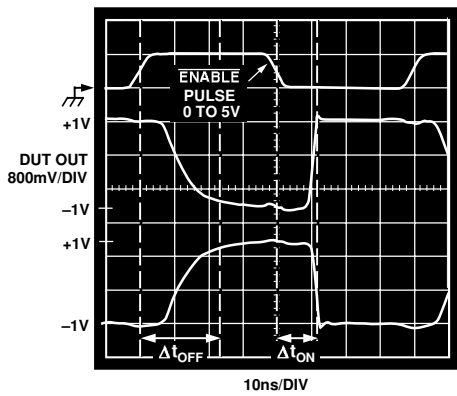

Figure 4. Enable and Disable Switching Characteristics
- 2ENABLE pin is driven with 0 V to +5 V pulse (with 3 ns edges). The state of the A0 and A1 pins determines which input is activated (refer to Table I). Set IN0 and IN2 = +1 V dc, IN1 and IN3 = -1 V dc, and measure transition time from 50% of ENABLE pulse (+2.5 V) to 90% of the total output voltage change. In Figure 4, ΔtOFF is the disable time, ΔtON is the enable time.